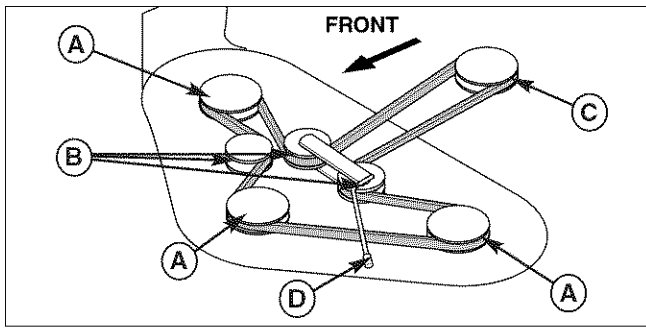
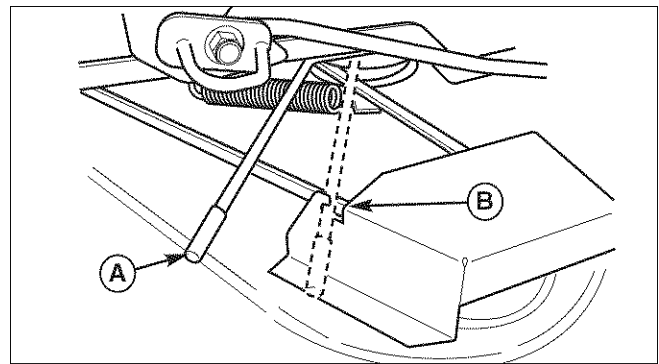

Figure 9. Mower Belt Routing
Figure 10. Release Belt Tension
3. Pull the lever (A, Figure 10) towards the rear of the machine to release tension on the mower belt. Secure the lever in the guard notch (B) and remove the mower belt from the PTO pulley (C, Figure 9).
8. Install the belt as shown in Figure 9.
9. Release tension from the tensioning idler pulley using the belt tension lever (A, Figure 10) and make sure the belt is seated properly in all pulleys.